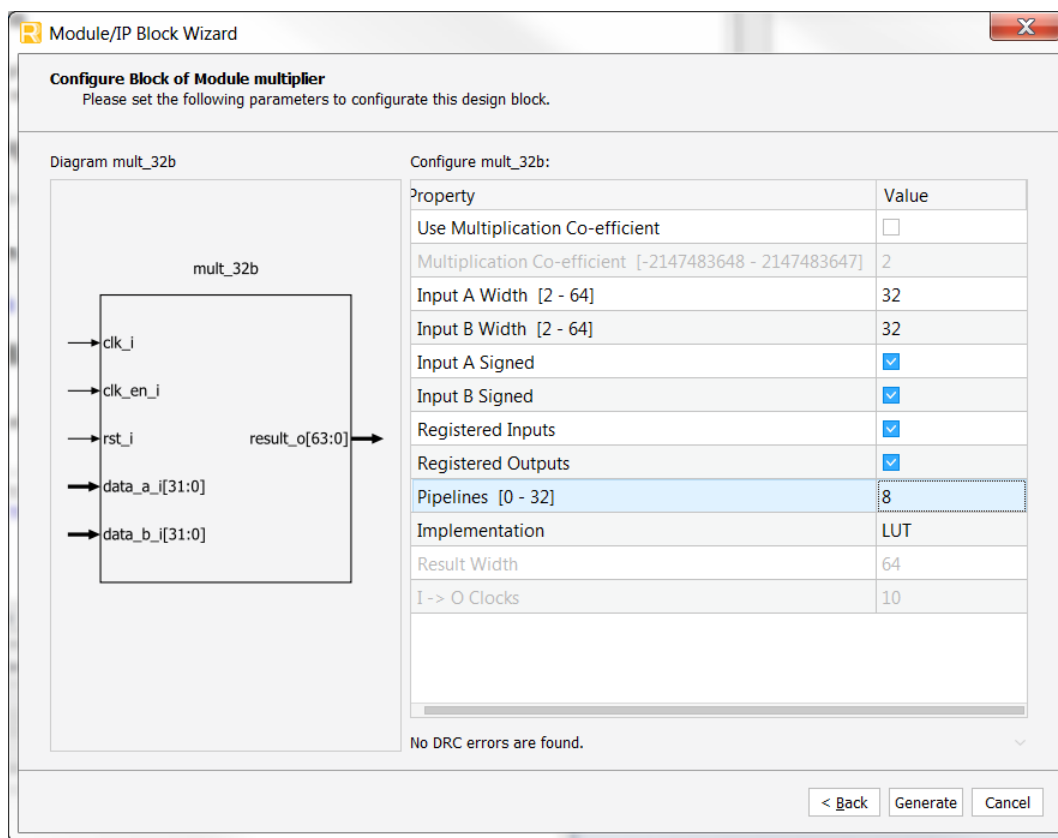

Figure 3.3. Example: Generating 32-bit Multiplier in IP Configuration
3. In the **IP Configuration** page, customize the Multiplier by selecting options as shown in Figure 3.3.